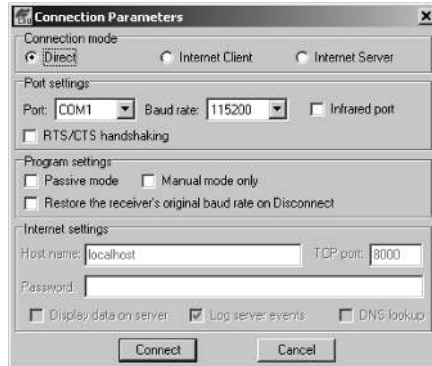

Figure 2-3. Connection Parameters
5. On the Connection Parameters dialog box, select the following parameters and click **Connect** (Figure 2-3 on page 2-7):